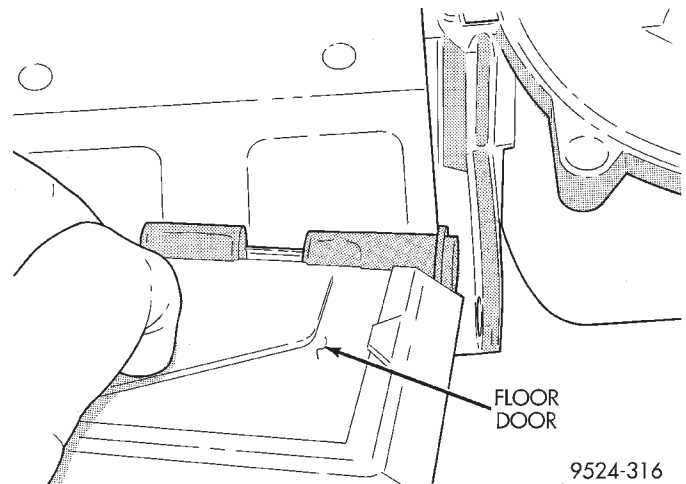
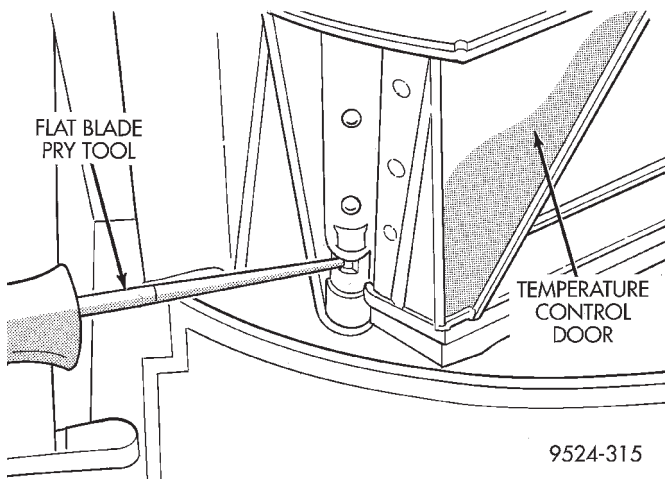

Fig. 109 Floor Door Removal
Fig. 108 Temperature Control Door Removal
- (38) Depress retaining clip at temperature control door, remove temperature control door (Fig. 108).
- (39) Unsnap panel door from rear half of housing. Remove door from housing.
- (40) Unsnap floor door from front half of housing. Remove door from housing (Fig. 109).